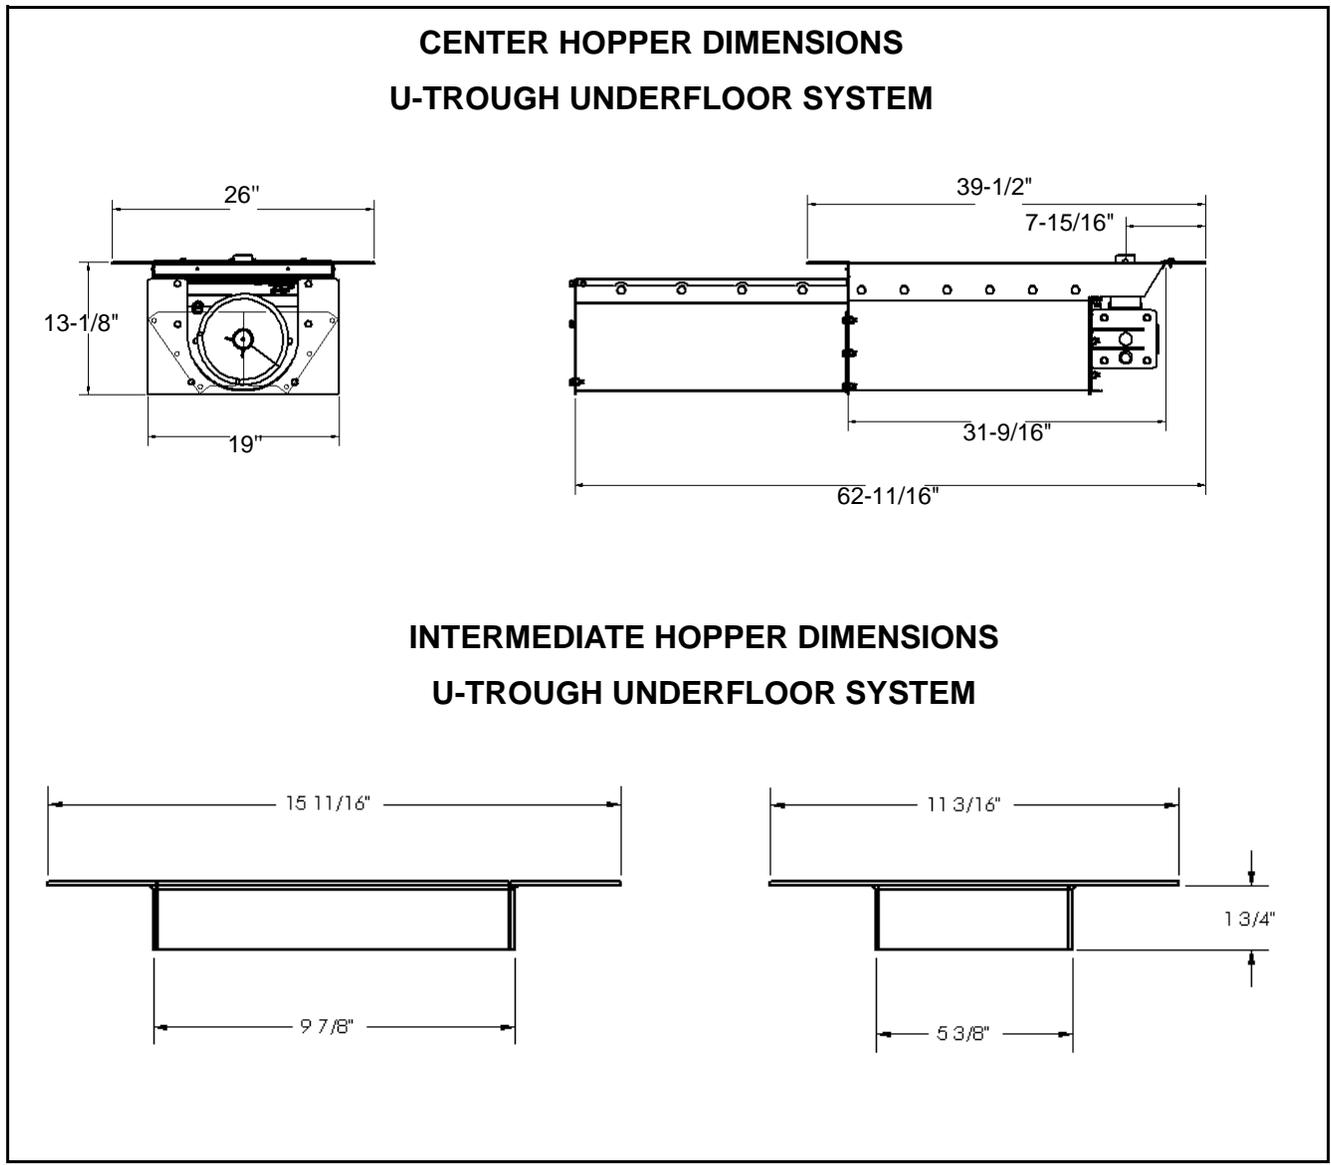

Figure 3.6
3. When measuring the hole, measure 12" down from the bottom of the aeration floor (see Figure 3.6). Try not to cut the bottom bin angle.